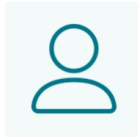

Figure 119. User Menu
1. Open the main menu by clicking the top left icon. See **Figure 119**.